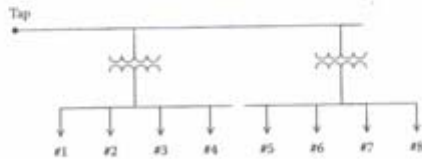

FIGURE 2.13
2.2 Two transformers each serving four customers are shown in Figure 2.13. The following table gives the time interval and kVA demand of the four customer demands during the peak load period of the year. Assume a power factor of 0.9 lagging.